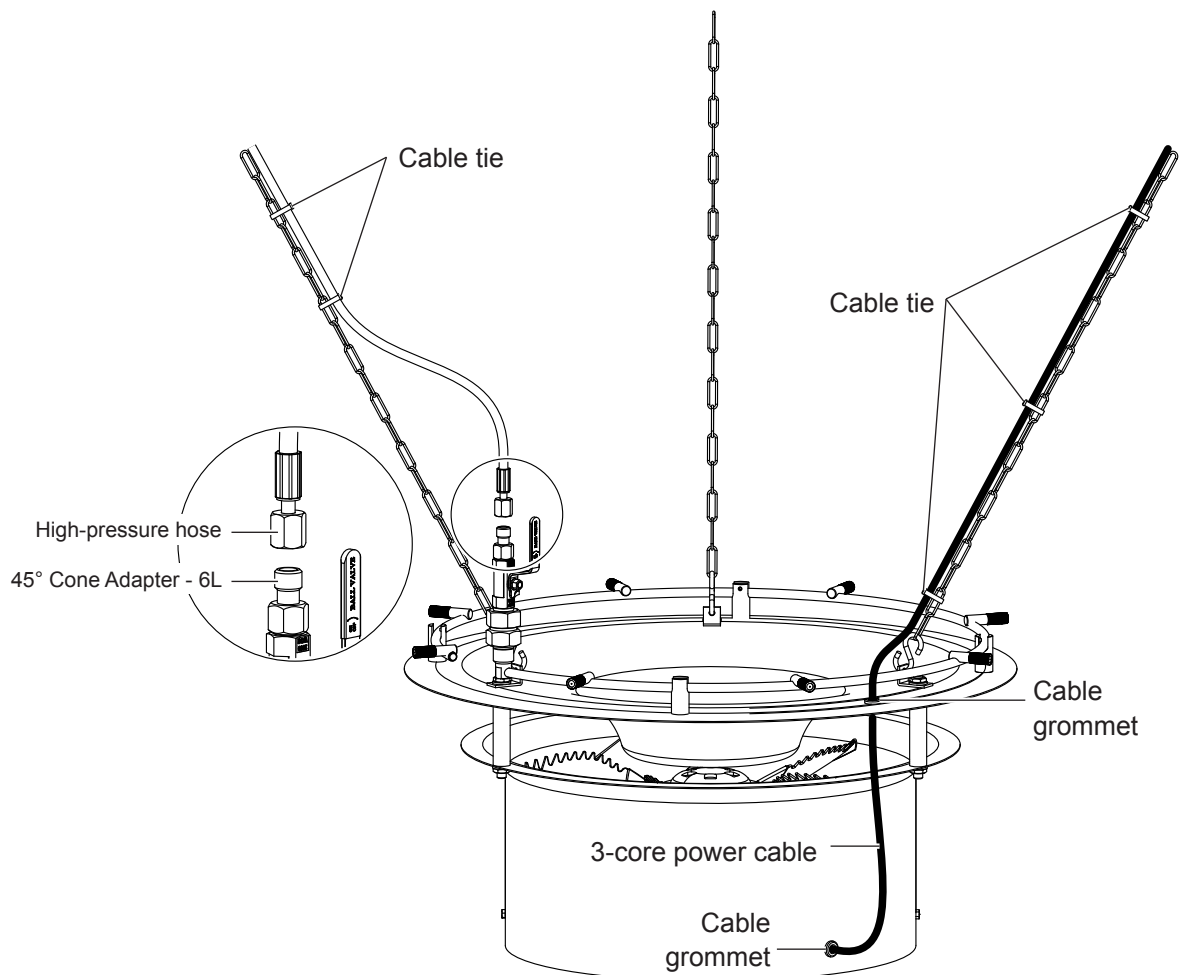

Fig. 30: Water and power supply connection
- Route the high-pressure hose along one of the chains to the connection point and secure it to the chain with cable ties (see Fig. 30). When routing the high-pressure hose, ensure that there are no vertical loops in the hose. This can lead to air pockets in the hose and disrupt the operation later.
- After flushing the hose system, connect the high-pressure hose to the ball valve using the supplied adapter (see Fig. 30).
- Route the power supply cable along one of the chains to the nebulizer, then via the two cable grommets to the connection box at the bottom of the nebulizer. Secure the power supply cable to the chain with cable ties (see Fig. 30).
- Connect the power supply cable (3x0.75 mm2) to the terminals L1, N and PE in the connection box according to the wiring diagram (see Fig. 30).